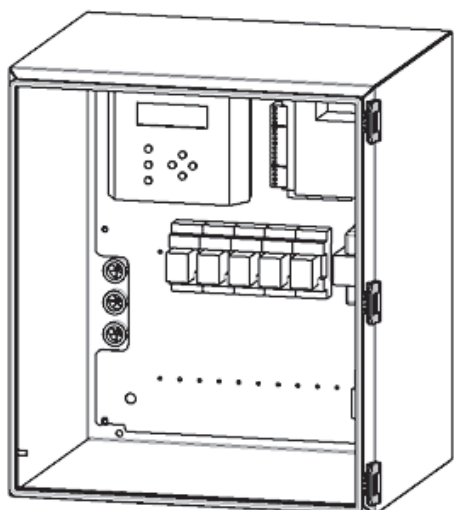

FIGURE 5: Variable speed controls.
- Factory mounted & programmed wheel VFD (See **FIGURE 5**)